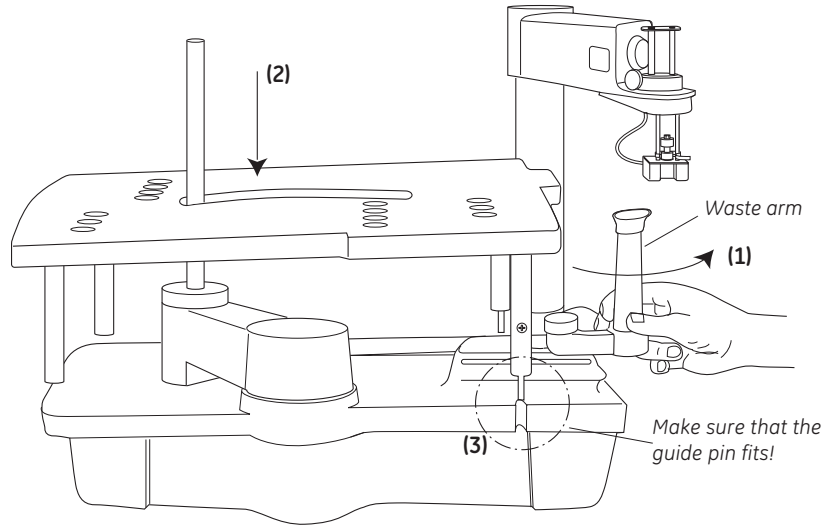

Figure 2-17. Installing a prep mode rack.
Install a prep mode rack as shown in Figure 2-17..
- 3 Install the rack. See Figure 2-17.